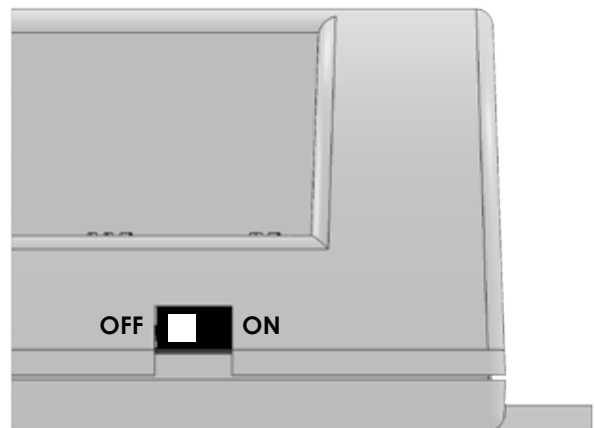

Figure 8.7: Dependent Cascade Boiler Control Switch Position
- d. Once a boiler is configured as a dependent boiler, the control switch, shown in Figure 8.7, must be in the OFF position to operate.